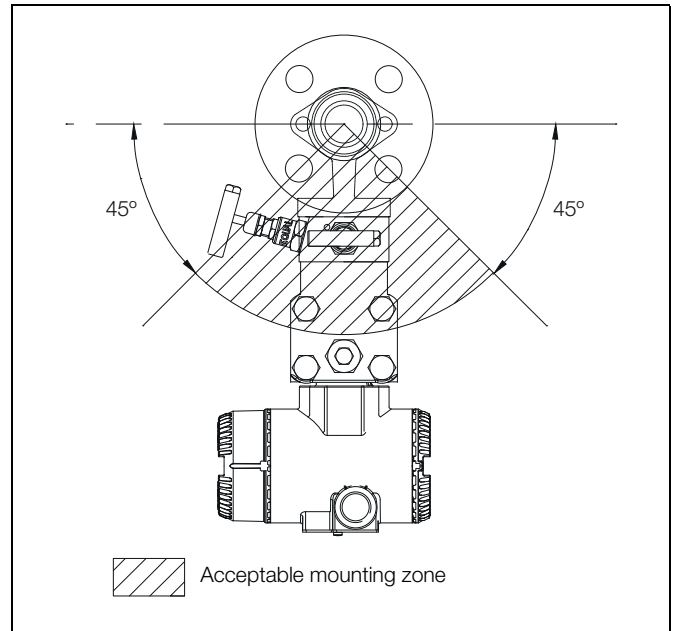

Fig. 2.4 Horizontal Pipe Mounting – Liquid & Steam applications
To ensure that gases vent back into the pipe, mount the meter **below** the pipe, at least 45 degrees below the horizontal – see Fig. 2.4.
- for horizontal pipe mounting – liquid, refer to Fig. 2.4.
1. Referring to Fig. 2.4, install IOMaster as described in Section 2.3, page 9.